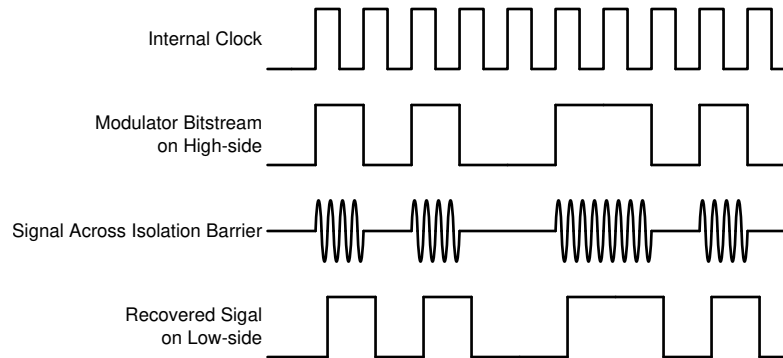

Figure 7-1. OOK-Based Modulation Scheme
The AMC3301-Q1 uses an on-off keying (OOK) modulation scheme, as shown in Figure 7-1, to transmit the modulator output bitstream across the capacitive SiO₂-based isolation barrier. The transmit driver (TX) shown in the Functional Block Diagram transmits an internally generated, high-frequency carrier across the isolation barrier to represent a digital *one* and does not send a signal to represent a digital *zero*. The nominal frequency of the carrier used inside the AMC3301-Q1 is 480 MHz.